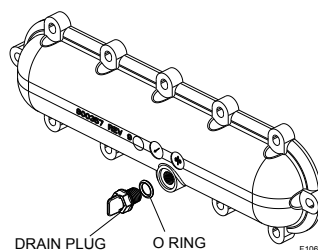
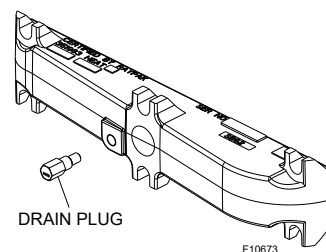

Figure 64. Return Header Drain Plug, Polymer ("P" Prefix Model)
Figure 65. Return Header Drain Valve, Bronze ("B" Prefix Models)
2. Remove the ProTek Shield Assy (if attached). Remove the heat exchanger inspection panel on the side opposite water piping to gain access to the drain plug on the return header. Open drain plug on return header. See **Figure 64** and **Figure 65**.